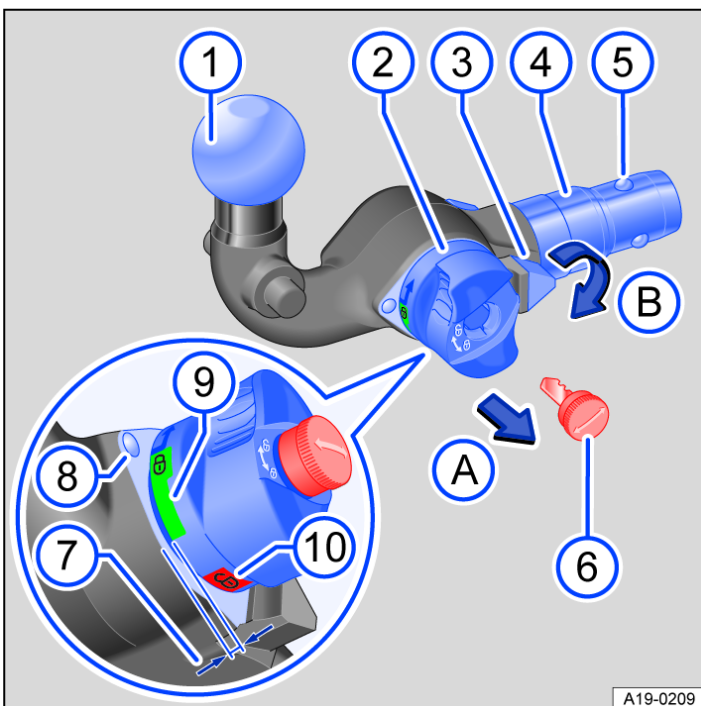

Fig. 2 Overview: removable ball coupling.
- Check to ensure that the mounting, handwheel → Fig. 2 ②, shank ④ and the retaining balls ⑤ of the ball coupling are all clean and not damaged → ①. Clean if necessary.
- Grasp the ball coupling neck underneath the ball coupling → Fig. 2 ① with one hand.
- Fold open the lock cover and insert the key ⑥ in the lock.
- Turn the key ⑥ clockwise.
- Use your other hand to pull out the handwheel ② in the direction of arrow A and hold it in this position → ⚠.
- Turn the handwheel ② in the direction of arrow B until it engages. The ball coupling is now pre-tensioned. The red marking ⑩ on the handwheel must point towards the white marking ⑧ on the ball coupling. The handwheel is clearly visible in front of the ball coupling. The gap between them is approximately 4 mm ⑦.
- Check to see whether all retaining balls ⑤ can be pressed fully into the ball coupling shank ④.